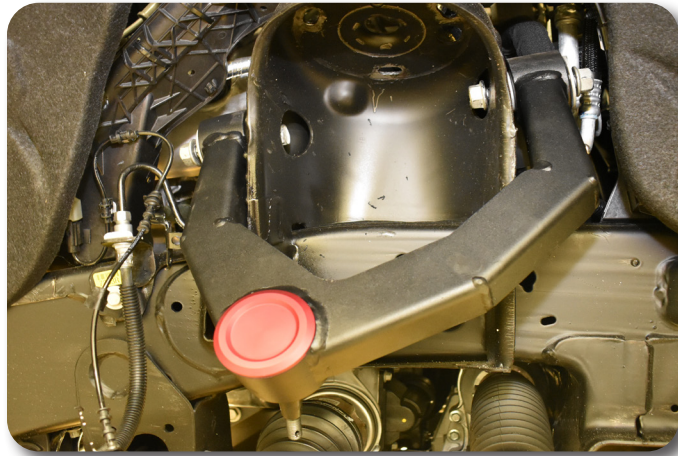

Figure 37
56. Install the new upper control arm to the vehicle using the **new provided 14mm bolts, washers, and nuts and using thread locker**. Run the bolt with a washer from the inside out of the strut bucket outwards with a washer and nut on the outer bushing washer surface. Do this for the front and rear control arm mounts. Fig. 37. Snug up hardware.